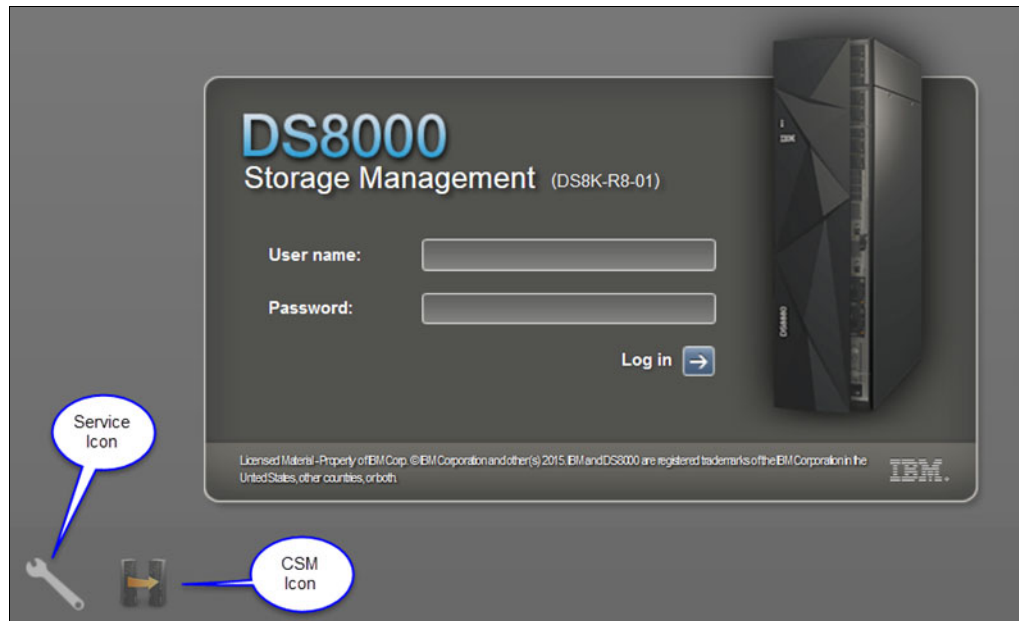

Figure 8-6 DS Management GUI Logon window
1. Start the MC Web GUI as shown in Figure 8-6. Click the **Service** icon (wrench) to access the Service Management Console.